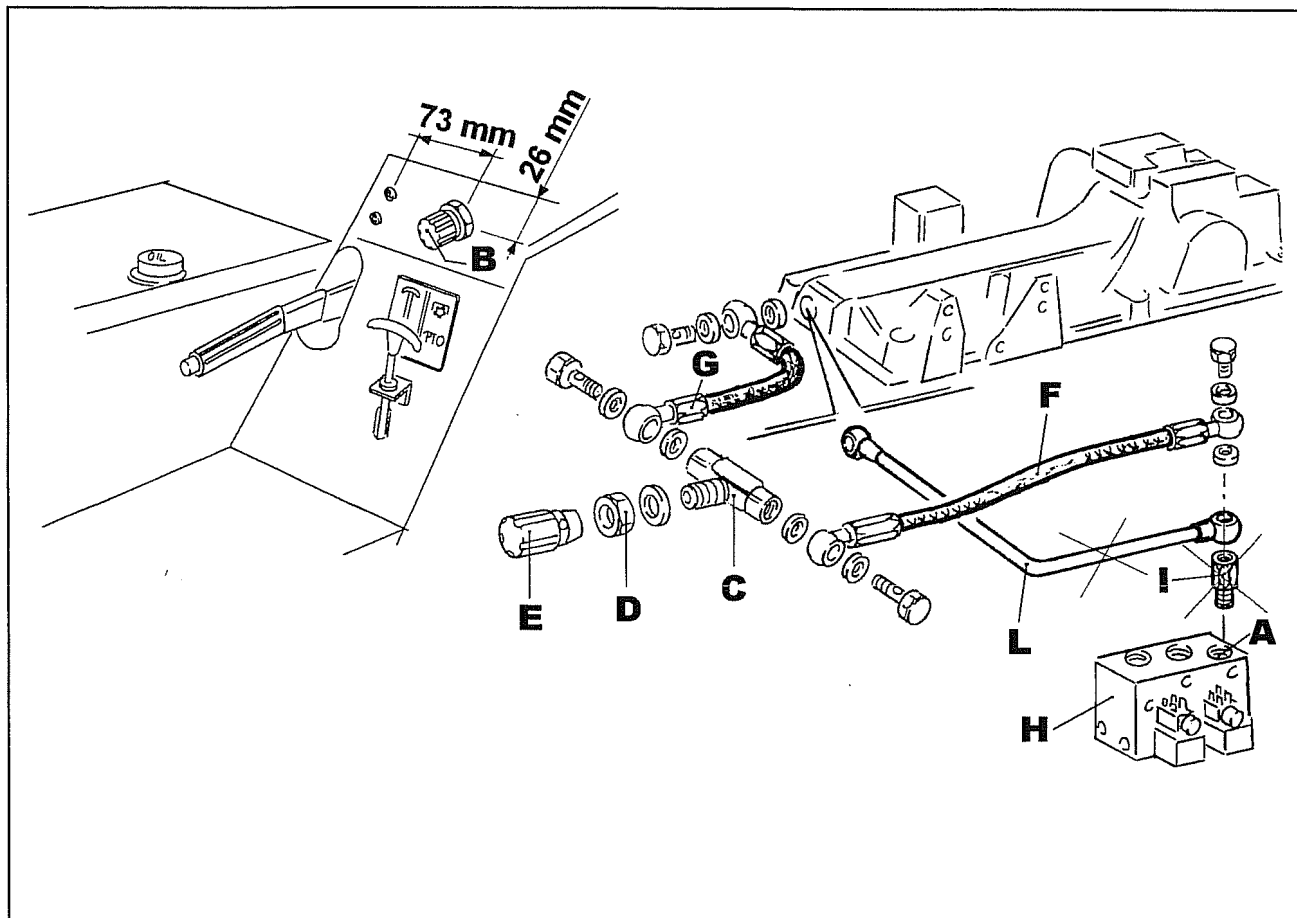

Fig. 34
2. Drill a 20 mm hole in the left panel at the position indicated by point **B** Fig.34.
4. Connect hoses **F** and **G**, as shown in Figure 34.